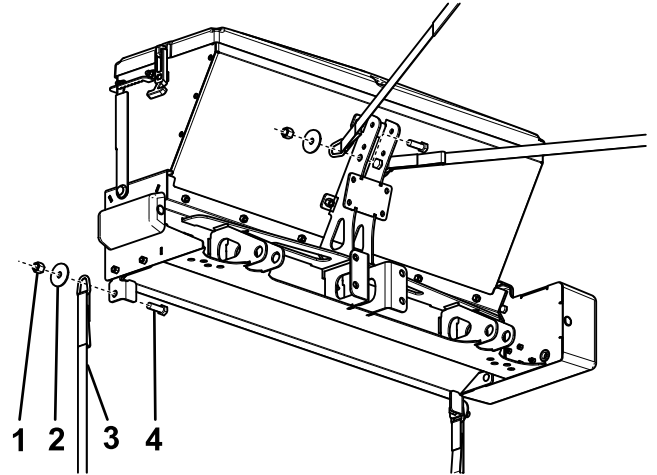

Figure 10
1. Secure the ratchet straps to the spreader using 4 bolts (1/2 x 1-1/2 inch), washers (1/2 inch), and locknuts (1/2 inch) as shown in Figure 10.